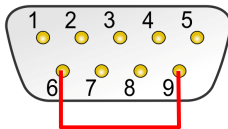
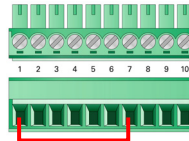

Figure 7: Connection at D-Sub connector CAN1 between the pins 6 and 9
Figure 8: Connection at the screw terminal strip between terminals 1 and 7
1. Ensure that a connection is established between the “Boot” and “U_{b1}”, “U_{b2}”, or “U_b” connections of the PCAN-Router FD (see Figure 7 or Figure 8).